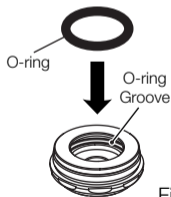

Fig. 9
- ② Install the new O-ring in the head cap. Apply a small amount of turbine oil to the O-ring before installation. Needles should never be used for installation. (Fig. 9)